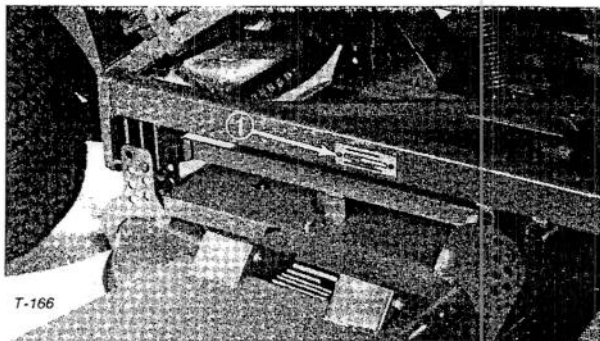
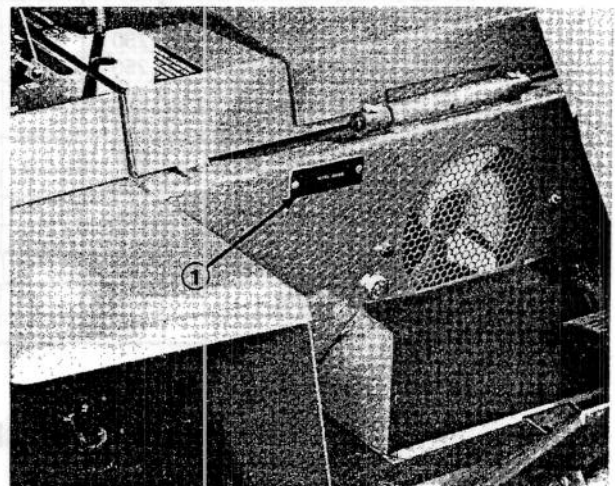

Figure 129
Figure 130
3. Install brake shoe and lining and spring onto mount stud, secure with locknut and mount PTO brake assembly (Fig. 129). Install all mounting components in same location from which they were removed.
The traction unit and cutting unit have two identification numbers: a model number and a serial number that are stamped into a plate. The cutting unit identification plate is located on the right hand channel of the carrier frame (Fig. 129). The traction unit plate is located near the right end of the seat hinge (Fig. 130). In any correspondence concerning the cutting unit and traction unit, supply the model and serial numbers to ensure correct information and replacement parts are obtained.